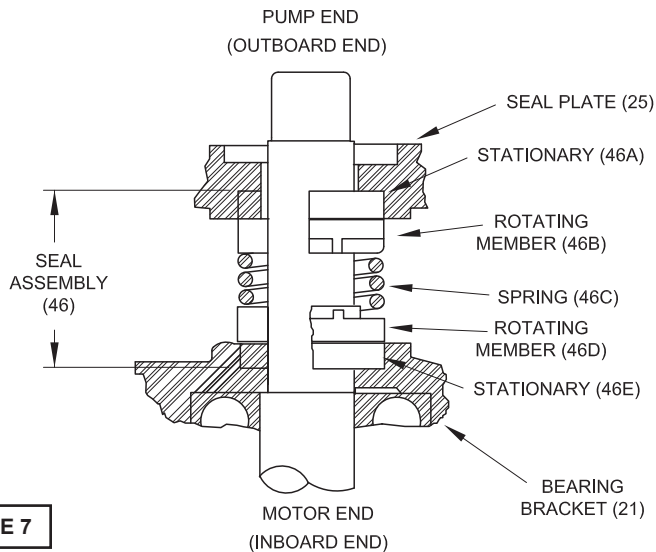

FIGURE 7
Seal - To expose shaft seal (46) for examination, complete above procedure and slide off outboard rotating member (46B). See Figure 7. Remove inboard rotating member (46D), from shaft. Examine all seal parts and especially contact faces. Inspect seal for signs of wear such as uneven wear pattern on stationary members, chips and scratches on either seal face. **DO NOT** interchange seal components, replace the entire shaft seal (46).